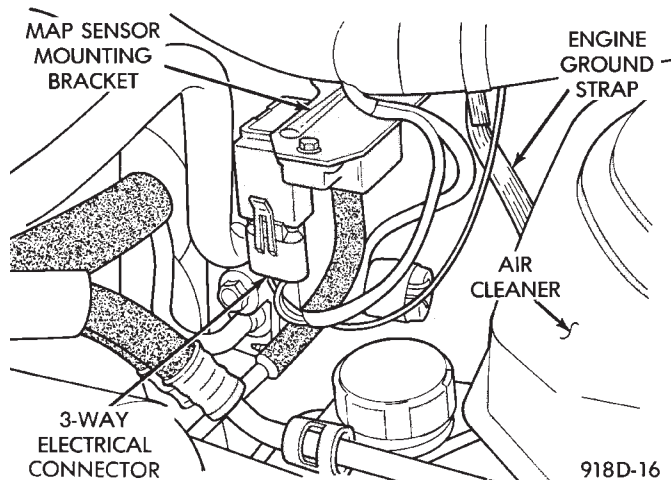

Fig. 15 Manifold Absolute Pressure (MAP) Sensor
The MAP sensor is mounted underhood on the dash panel (Fig. 15)
(1) Remove vacuum hose and electrical connector from sensor (Fig. 15).
(2) Remove sensor mounting screws. Remove sensor.
(3) Reverse the above procedure for installation. Check the vacuum hose and electrical connections to the sensor.